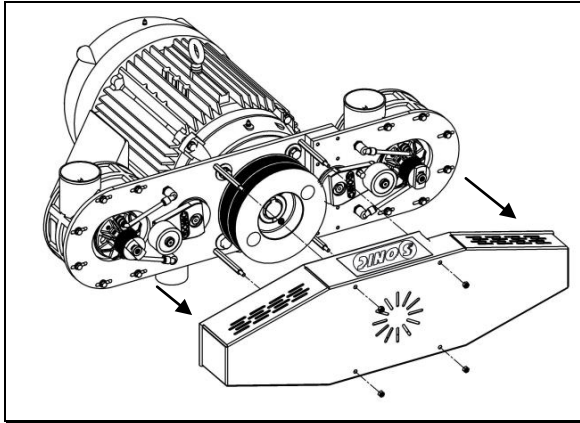

Figure 6 - Remove Belt Guard
1. Remove the belt guard using the ½ inch box-end wrench and remove the (4) nuts. (See Figure 6)